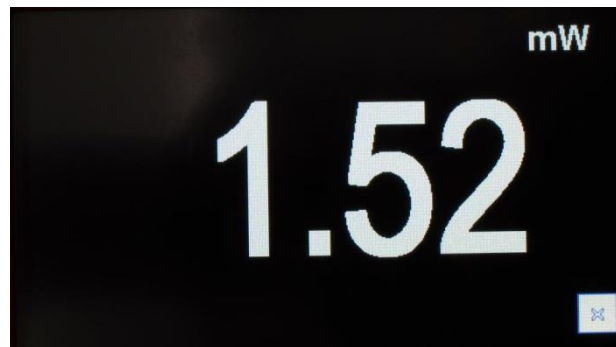

Figure 19
- f) 90° FullScreen: switch to a full screen high visibility / high contrast display (Figure 19) showing only the measure digits and the unit of measure. Click the “X” button to return to main screen.